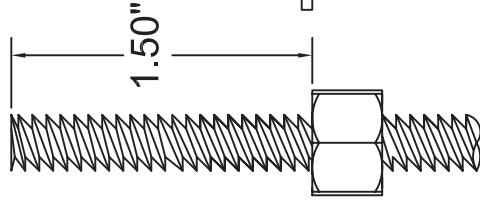

FIGURE 1
STEP 1: THREAD THE NUT ONTO THE EYEBOLT, AS DEPICTED IN FIGURE 1